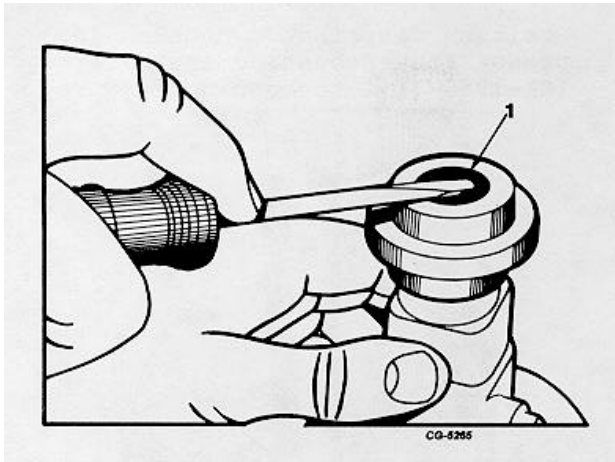

Fig. 24. Removing Lower Oil Seal
2. On distributors for V-537 engine, use a screwdriver to pry oil seal out of lower end of distributor housing (Figure 24).